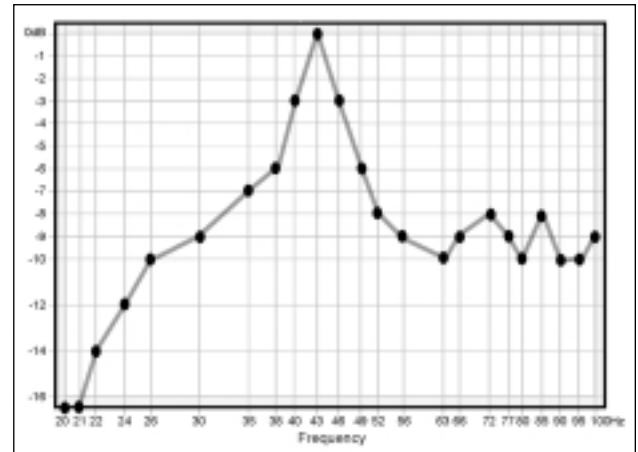

FIGURE 24
1. Select a new test position: Cue the test track corresponding to the center frequency of the dip. In the first example in Figure 24, you would play Track 13 (56Hz). Press **Play** ►. You will see a reading very close to what you had before. Now, slowly move the RSLM around the area, if possible remaining within about a foot of the original test point. As you move the RSLM, watch the bar graph. You will observe large level fluctuations. Find a position that restores the level to approximately that of the adjacent test points. You may find it helpful to move the RSLM vertically. Dips can be oriented in any axis. The position that restores the level to about that of the adjacent test points is your new test position.